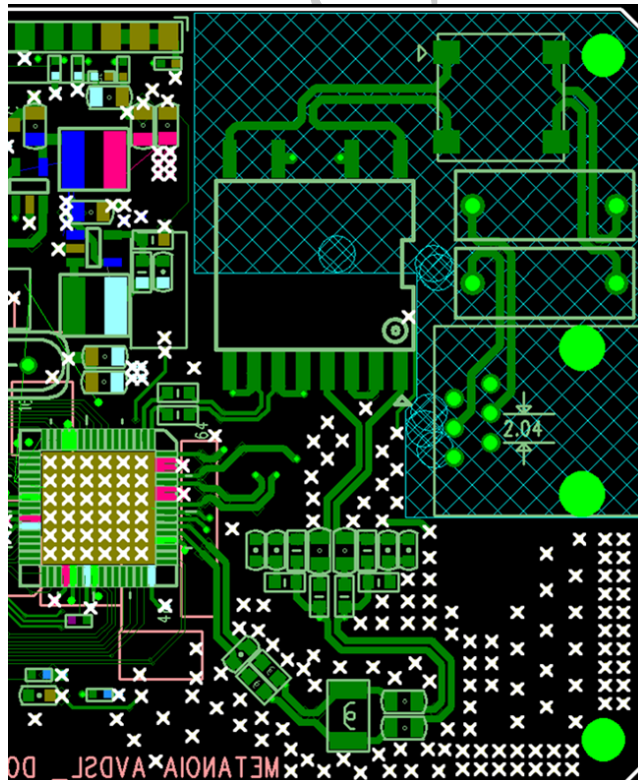

Figure 4.10: Trandformer and DC Block Capacitor Placement.
- The trace width needs to be 20mil or above and need shortest routing, as show in Figure 4.10.